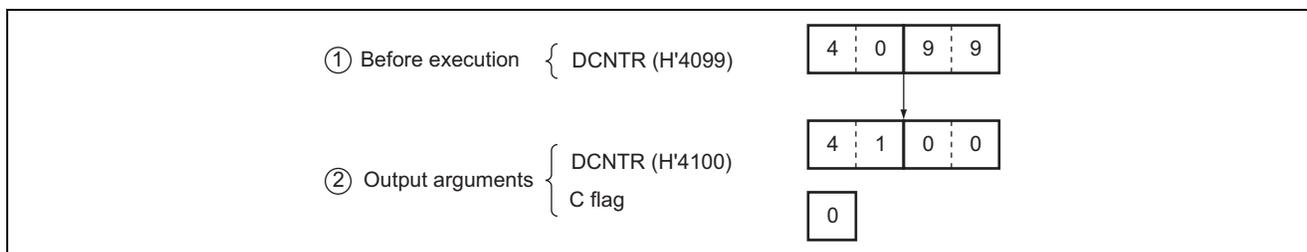

Figure 1 Example of DECNT Execution
2. Figures 1 and 2 illustrate the execution of the DECNT subroutine. Executing DECNT increments the four-digit BCD counter as shown in figure 1.